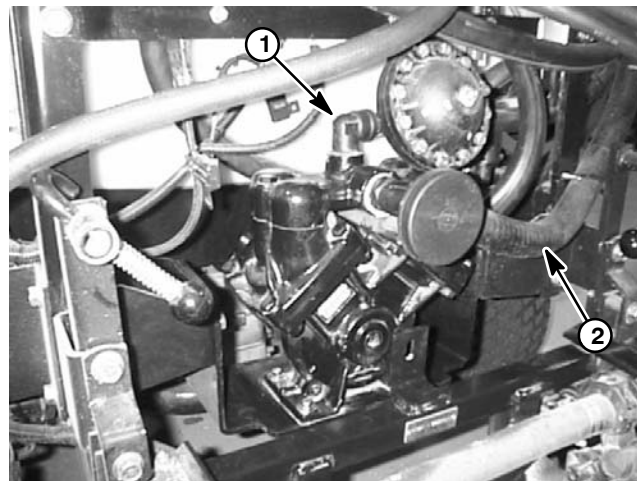

Figure 7
2. Install suction tee fitting and suction dampener to pump inlet. Orientate tee toward right side of machine (Fig. 7).
3. Install elbow (pressure), pressure tee fitting, and pressure dampener to pump outlet. Orientate elbow toward right side of machine (Fig. 7).
4. Remove set screws (item 16) from PTO driveshaft. Clean threads of set screws and set screw threads in driveshaft.
7. Position pump drive shrouds (item 13) to shroud bracket (item 14). Install four (4) flange head screws and flange nuts to secure shrouds to bracket.